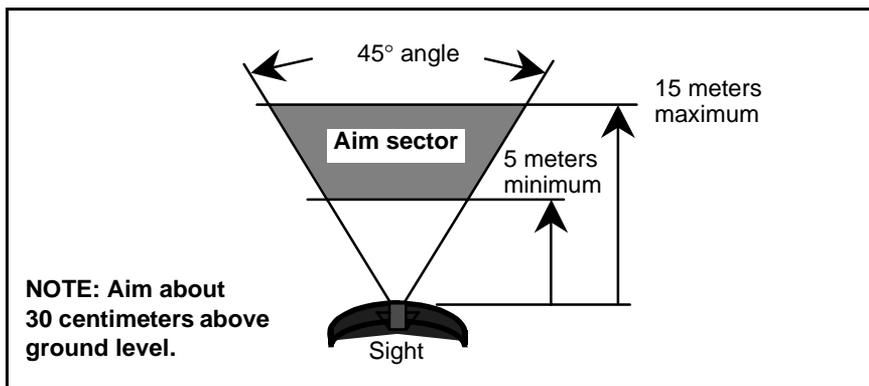

Figure 2. Aiming
Step 9. Final aim the M5 as follows (*Figure 2*):